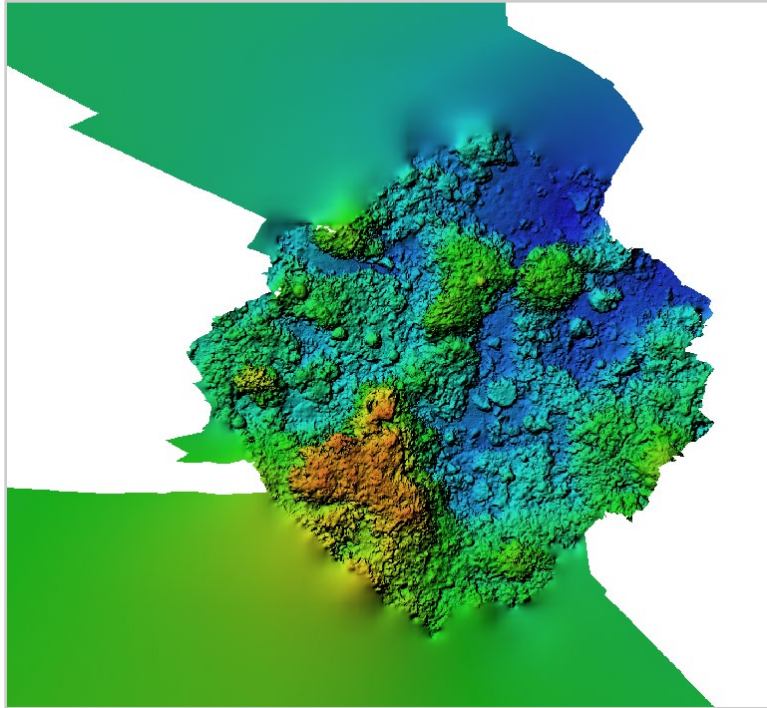

Figure 34. Example of poorly generated DEM with color extensions off the model.
2. After the DEM has been built, check it by double-clicking on the generated DEM. Poorly generated DEMs may be all of the same color or have an extension of color off the model (Figure 34). Poorly generated DEMs with extensions of color can be fixed using the Draw tool.